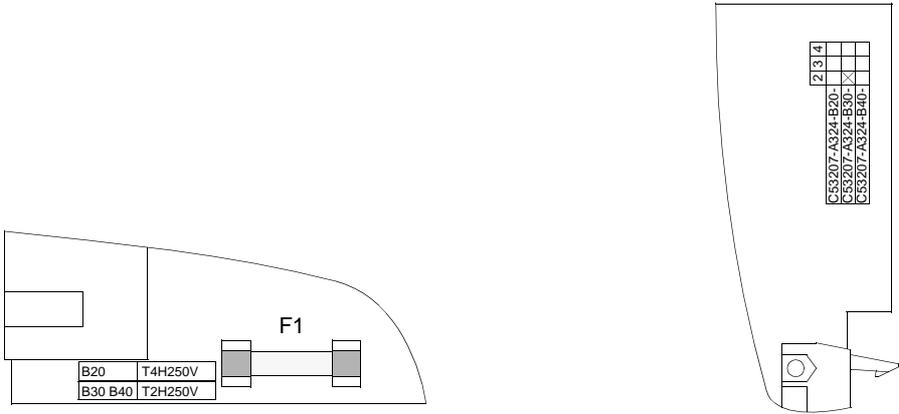

Figure 9-5 Power supply mini-fuse on the input/output printed circuit board C-I/O-1
- Has the fuse in the power supply not blown. The location of the fuse is shown in Figure 9-5. If the fuse needs to be replaced, see Sub-section 9.5.2.
- Keep ready replacement fuse 5 x 20 mm. Verify the correct rating, correct characteristic (T) as well as the correct coding. This data is printed on the module next to the fuse (see Figure 9-5). The type of fuse depends on the auxiliary supply voltage, e.g. for 24 to 48 VDC the fuse type "T4H250V" according to IEC 60127-2 is required (refer to Table 9-1). To maintain the UL-approval, only UL approved fuses may be used (e.g. Messrs. Wickmann. type 181).
- Remove the defective fuse. Figure 9-5 illustrates the fuse.